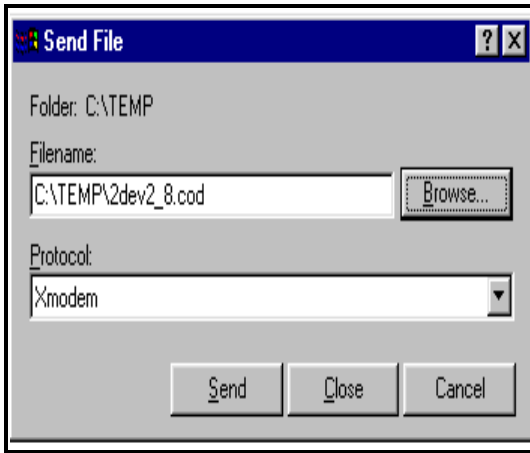

Figure 69: Flash Update Window
3. Use the arrow keys to scroll to **Flash Update** and press [ENTER]. Screen appears similar to Figure 69 on page 142.
4. Press [F3] (OK) to confirm that you wish to erase the program.
5. The meter asks for confirmation. Press [F3] (OK) to continue with the update.